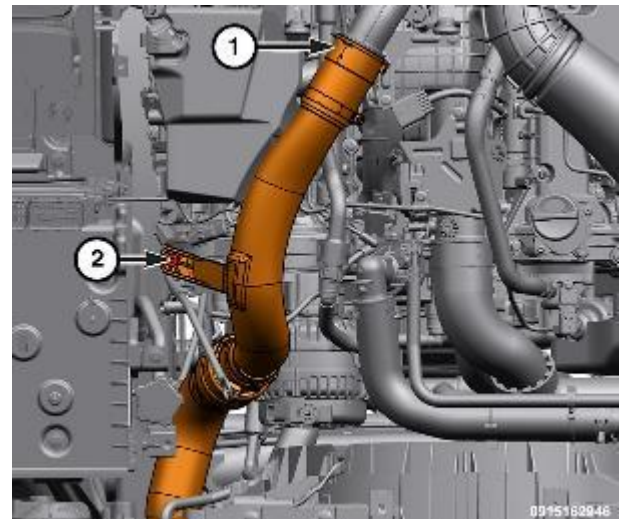

Figure 183 – Charge Air Cooler (CAC) Hose
22. Remove the Charge Air Cooler (CAC) hose bolt (2) securing the CAC hose to the support bracket (Figure 183).
23. Release the retaining clip (1) and disconnect the CAC hose from the turbocharger elbow and position aside (Figure 183).